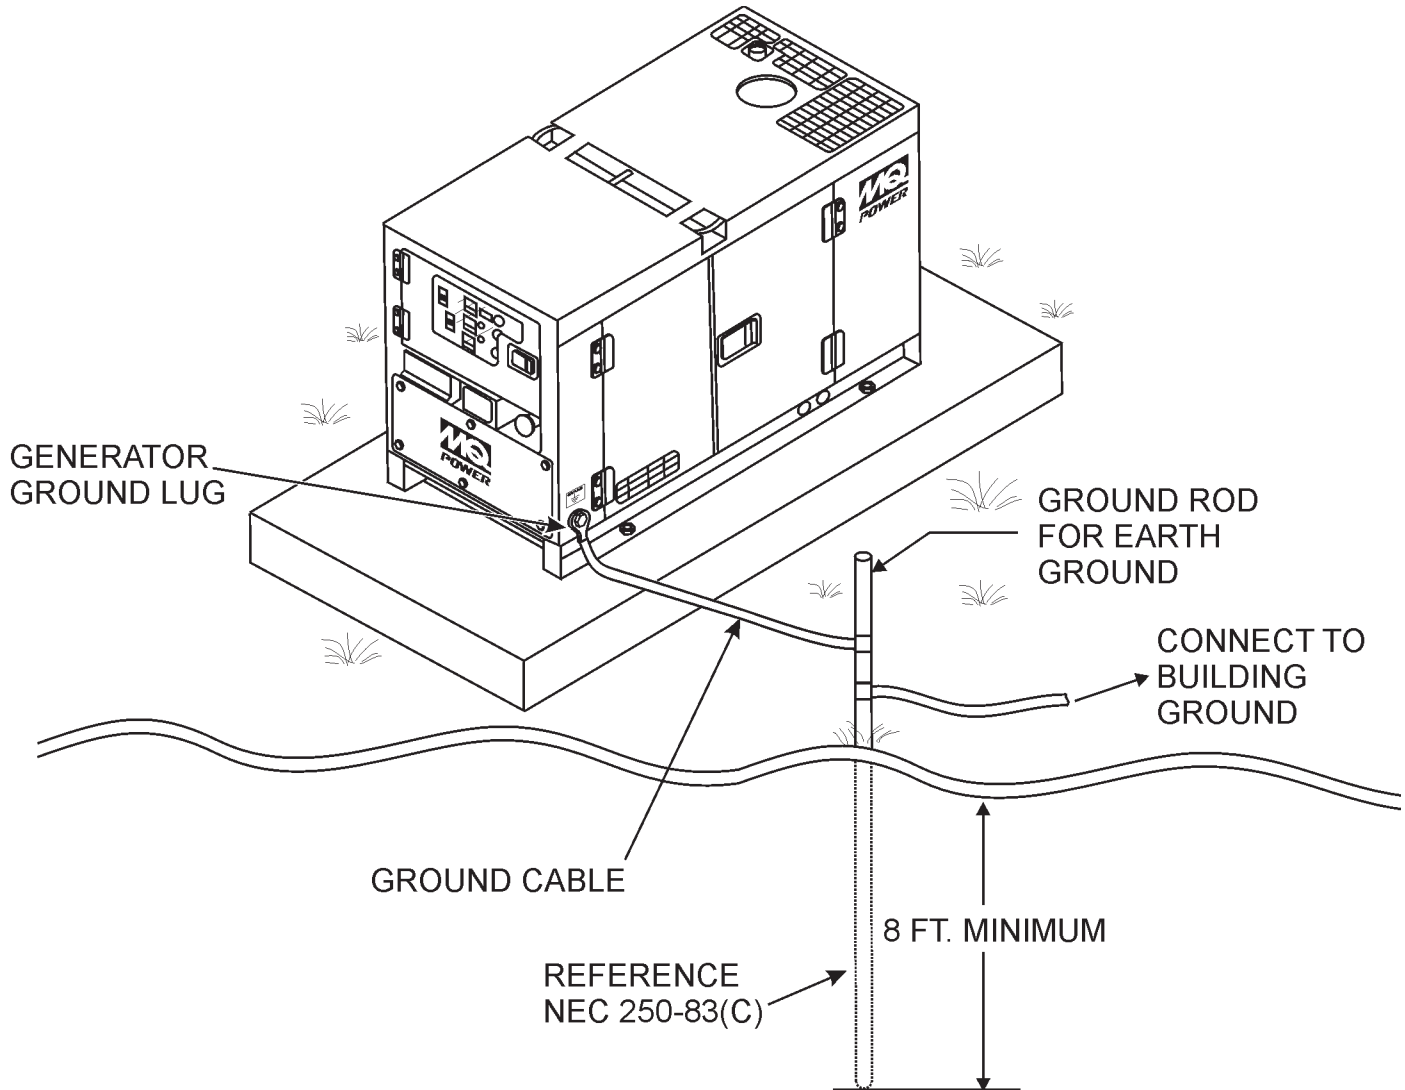

Figure 2. Typical Generator Grounding Application
2. When grounding the generator (Figure 2) connect the ground cable between the lock washer and the nut on the generator and tighten the nut fully. Connect the other end of the ground cable to earth ground.